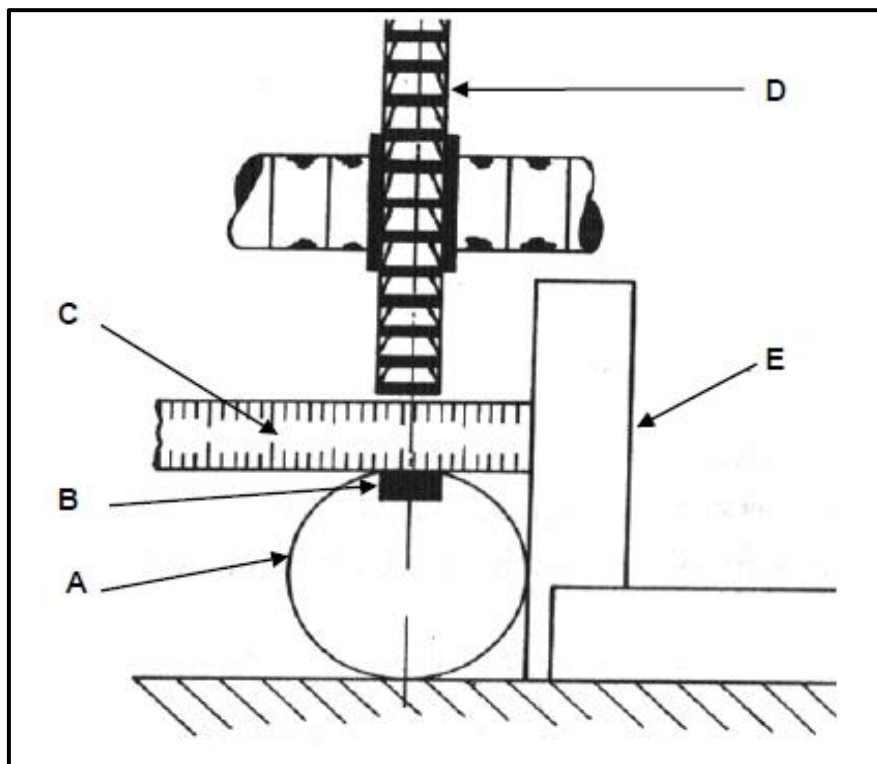

FIGURE 5.4
5.4 FIGURE 5.4 below shows a drawing of a keyway being cut with a 12 mm wide cutter on a 48 mm diameter shaft. Answer the following questions.